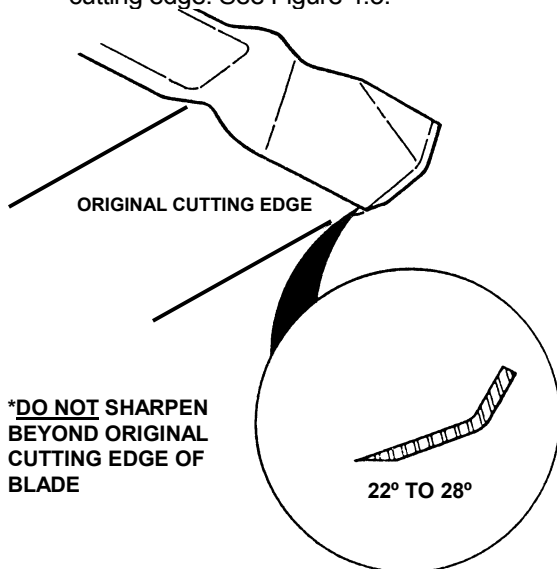

FIGURE 4.3
- Sharpen blade on a grinding wheel at an angle of 22 to 28 degrees. DO NOT sharpen blade beyond original cutting edge. See Figure 4.3.